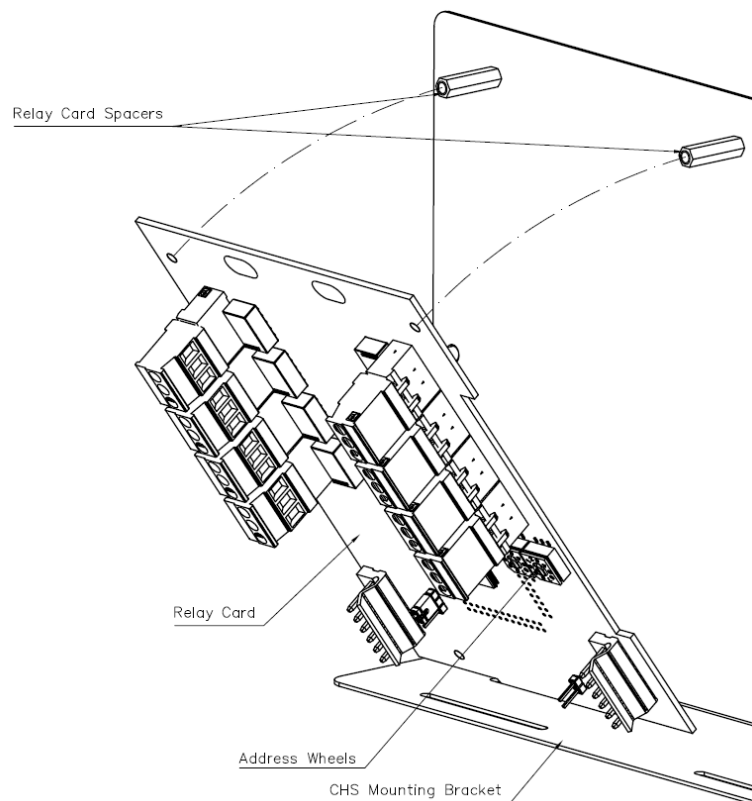

Figure 2-1 – Mounting ACM-8RA
2. Fix the supplied ACM-8RA spacers (#GEN-01-002) to the CHS bracket (Figure 2-1 – Mounting ACM-8RA).
3. Position the ACM-8RA to the slot at the bottom of the CHS Bracket (Figure 2-1 – Mounting ACM-8RA).
4. Rotate the ACM-8RA so that the mounting holes align with the spacers (Figure 2-1 – Mounting ACM-8RA).